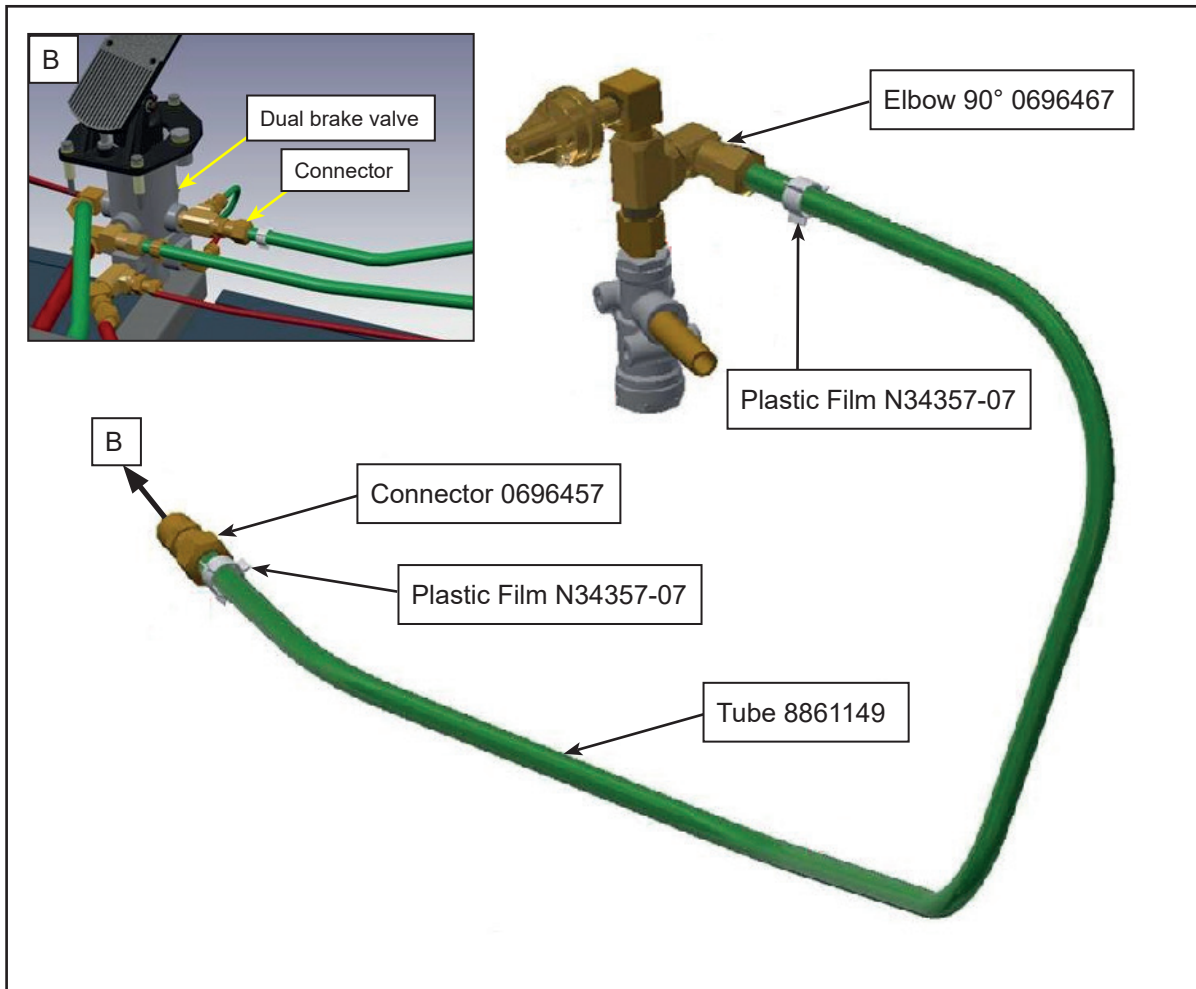

Figure 7 - Installation of Elbow and Connector
- 1.15. Install elbow 90° P/N 0696467 along with tube P/N 8861149 on tee connector (see figure 7).
- 1.16. Connect the connector P/N 0696457 to other end of the tube on the dual brake valve and install the plastic film tape P/N N34357-07 (see figure 7).